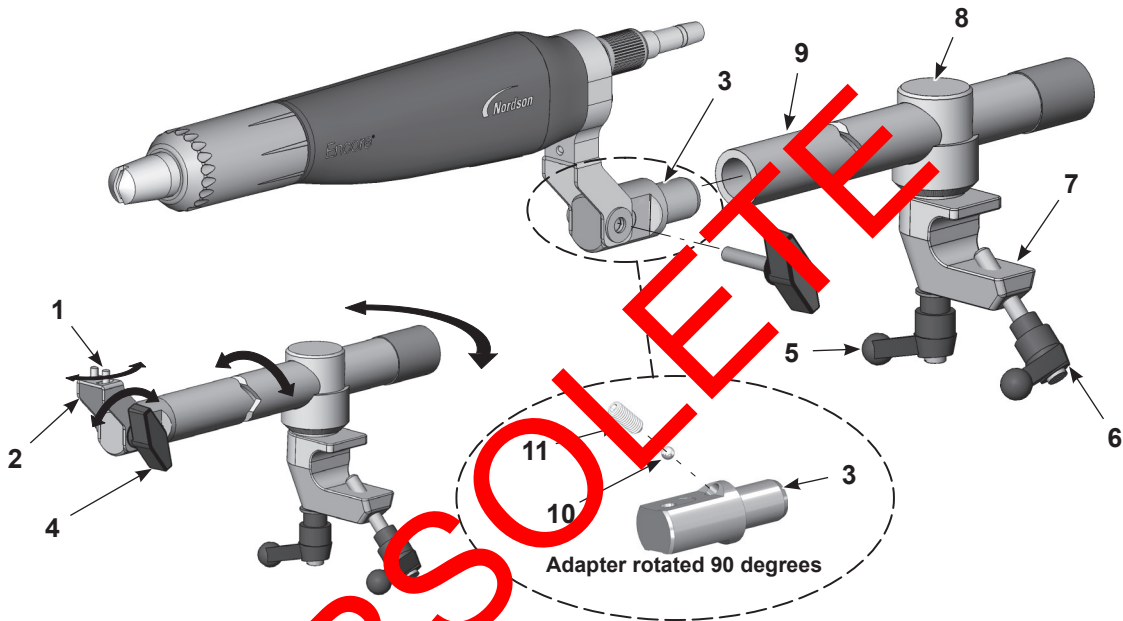

Figure 4 Bar-Mount Gun Mounting
See Figure 4. Install the gun bar-mount adapter (3) into the end of the adjusting rod (9) and secure it by tightening the set screw (11) with a 4-mm hex key. Refer to page 47 for the gun bar part number.
- To move the gun tip from side to side, loosen the right button screw (1).
- To tilt the gun tip up or down, loosen the tilt knob (4).
- To rotate the adjusting bar on the locking body (8) axis or in the locking body, loosen the rotate handle (5).